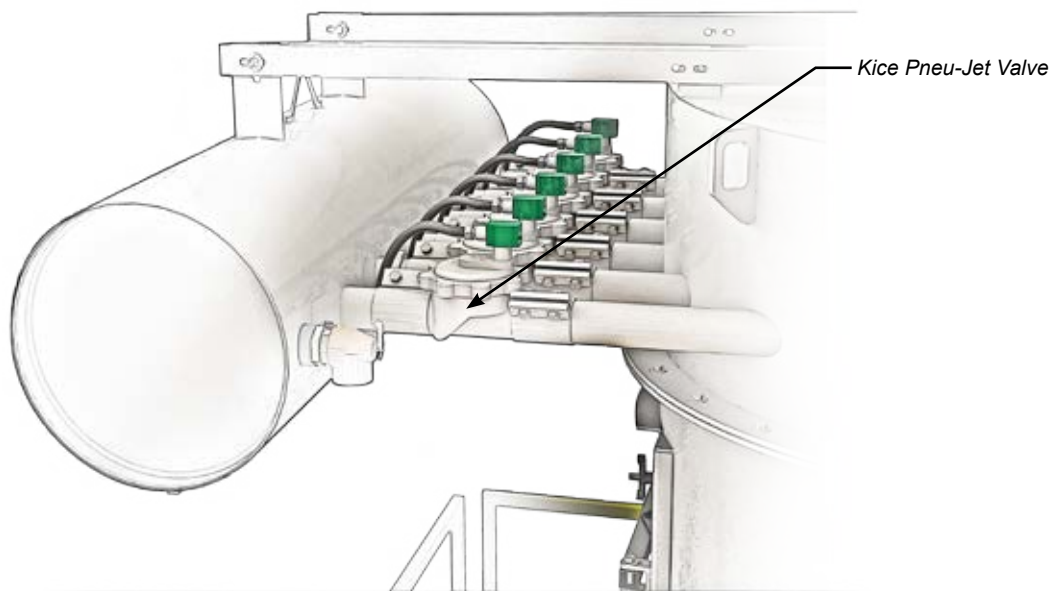
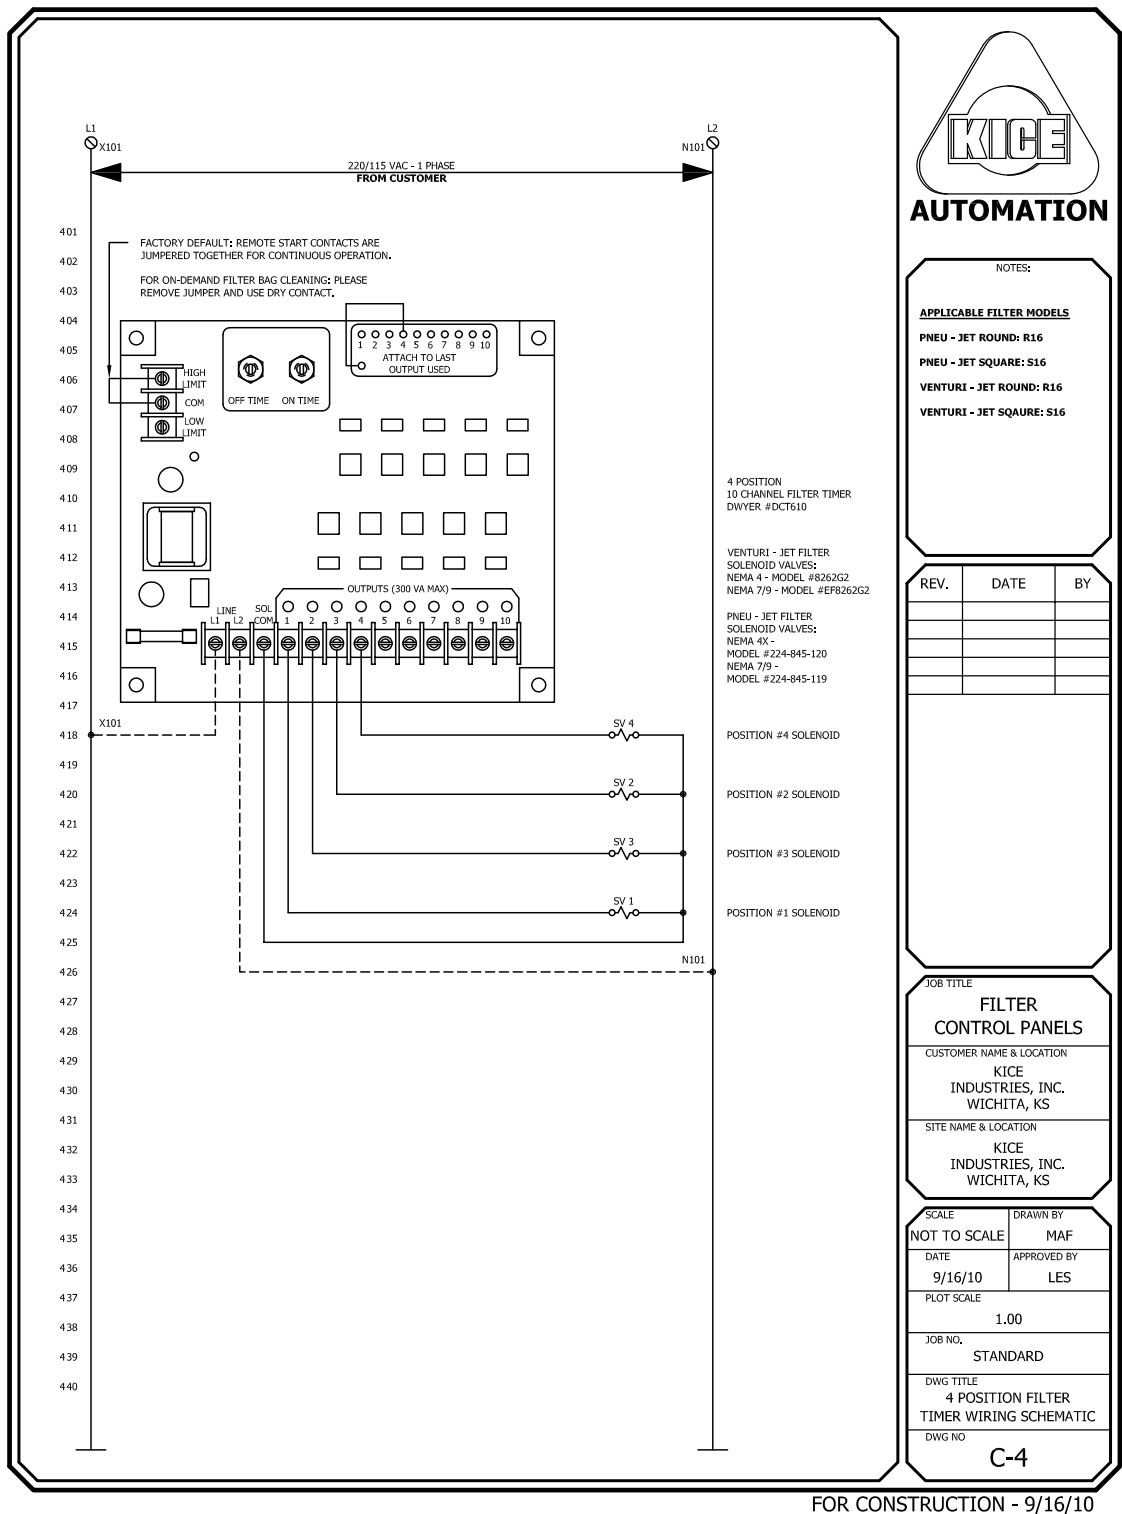

FIGURE 12
FIGURE 14
NOTICE: Reference Figure 14 in the Operating Logic section for example wiring diagram.
The complete Kice Pneu-Jet filter control circuit is shown on (Figure 14) on page 22. The Pneu-Jet valves are mounted between the air tank and the cleaning manifolds. (Figure 12) These valves are an exclusive Kice design to provide a high-energy release of air that is used for cleaning the filter media. The Pneu-Jet valve is a 2 way normally closed, diaphragm type valve utilizing a spring and air pressure above the diaphragm to cause the diaphragm to seal. When the pressurized air above the diaphragm is exhausted to atmosphere, the diaphragm lifts to the open position, discharging the pressurized air (10-15 psig) into the cleaning manifold in a fraction of a second.
Reference the Dwyer Electronic Controller Schematic (Figure 14) on page 22 for more detail.
Reference the Ametek NCC Electronic Controller Schematic (see Figure 14) on page 22 for more detail.
3. Controls should be wired in accordance with schematic diagram (Figure 14). Square and round model filters are normally pre-wired, fully assembled and tested at the factory. Check all wiring connections to assure proper bag cleaning sequence. The air tank pressure gauge should have a working range of 0-30 psig.